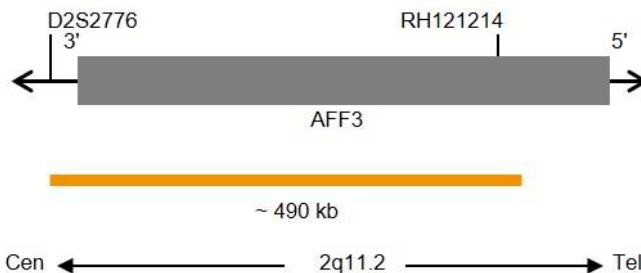

Fig. 1: SPEC 2q11 Probe map (not to scale)
- ZyOrange (excitation 547 nm/emission 572 nm) labeled polynucleotides (~4.5 ng/μl), which target sequences mapping in 2q11.2\* (chr2:100,132,806-100,621,725) (see Fig. 1).